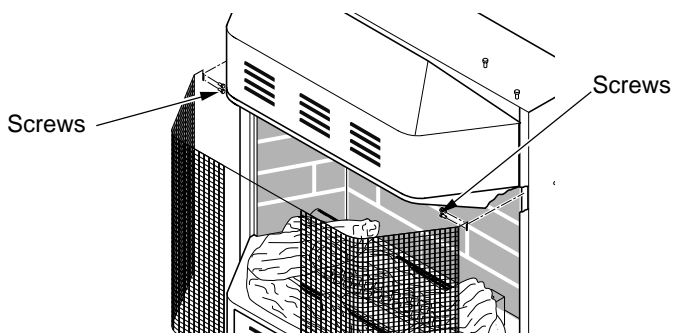
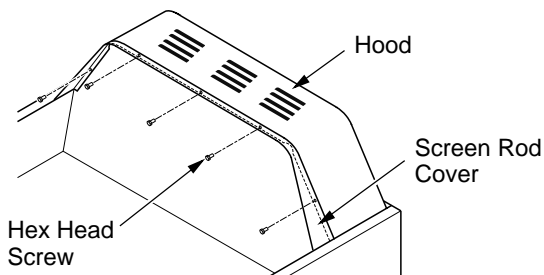
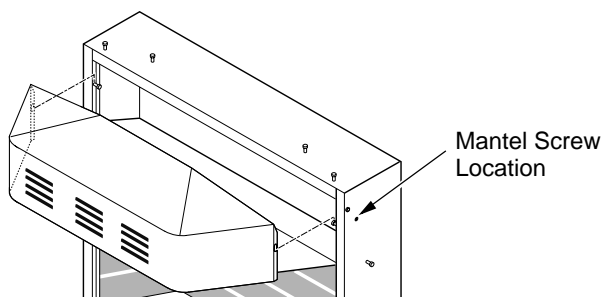

Figure 11 - Removing Screen
Figure 12 - Removing Hood Screws
Figure 13 - Removing Hood
2. Remove screen from fireplace by removing screws in each end of screen rod (see Figure 11, page 10). Hold screen rod cover while removing five hex head screws underneath hood (see Figure 12, page 10). Carefully lift and pull out hood (see Figure 13, page 10).
11. Attach remaining two 3" wood screws from hardware pack through openings inside of fireplace sides into the mantel. See Figure 13 for screw hole location.